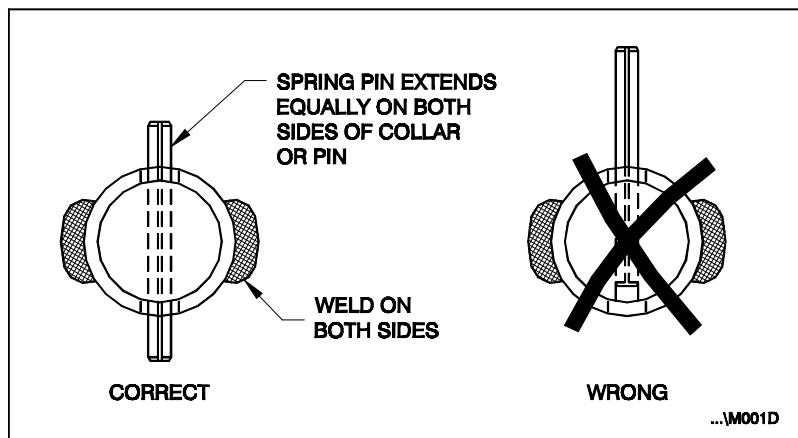

Figure 12: Spring Pins
2. Check for presence and proper seating of all spring pins on all axles, cylinders and rollers. Confirm that all welds on the spring pin collars are intact. (See “Figure 12: Spring Pins” on page 15)